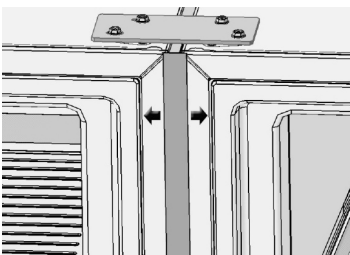

Fig. 17
b. Adjust the proximity of the units as needed to centralize the middle trim. Start by fastening the screws on top 1H bracket in order to evenly space the Center Trim (Fig. 17).